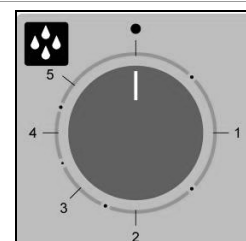

Fig. 6
**Programming vapour quantity** - To generate vapour while the oven is in operation (cooking compartment hot), turn the knob of the automatic humidifier (Fig. 6) in line with the required value (from 1 to 5). If you turn the knob to position • (OFF) the humidifier will stop operating.